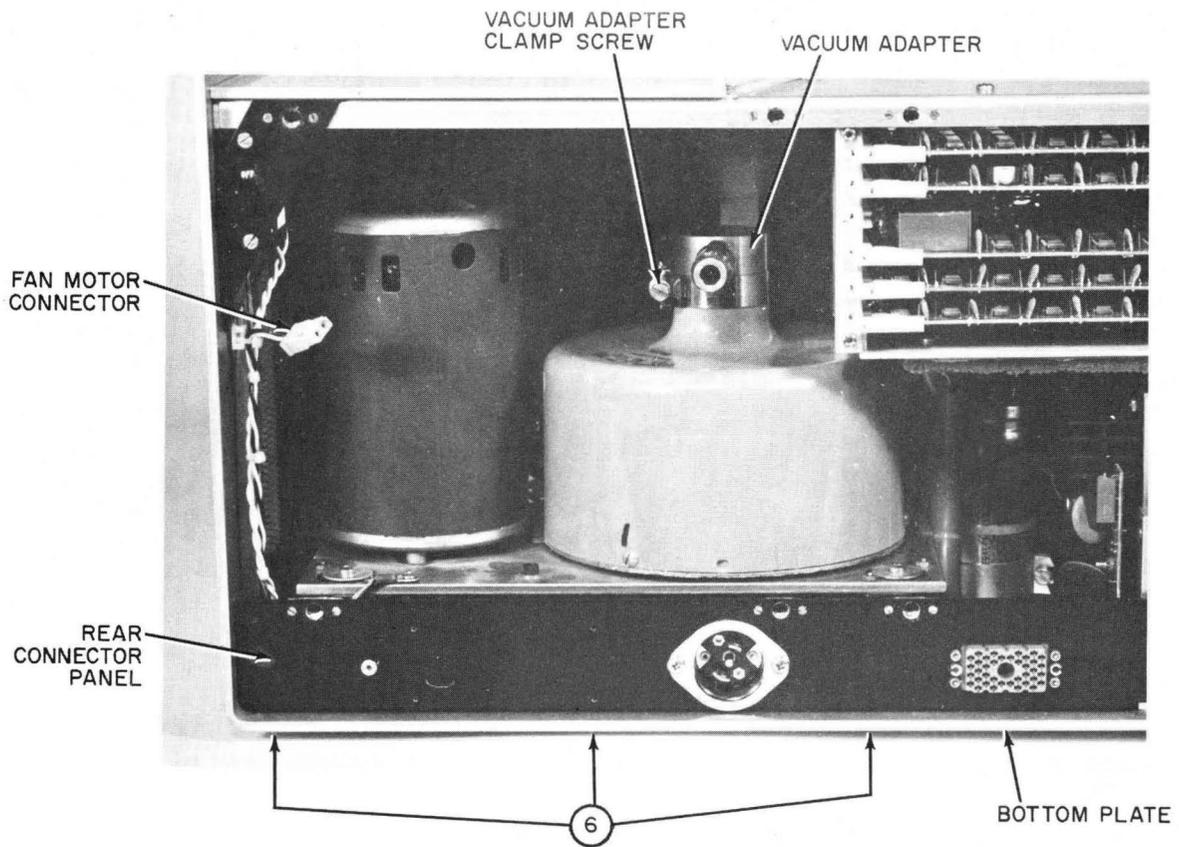

Figure 25. Rear View, Cover Removed
3. Disconnect fan motor connector and remove rear panel, figure 25.
4. Remove three 6 x 32 Phillips pan head screws (6) from bottom plate holding rear connector panel, figure 25.
9. LOOSEN vacuum adapter clamp screw and lift adapter out of pump, figure 25.